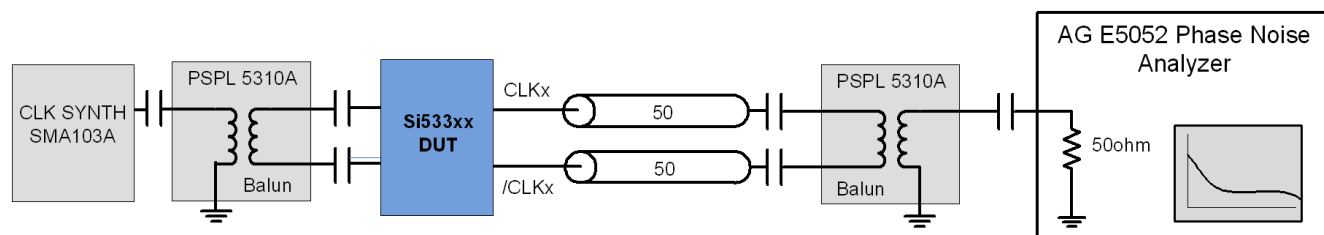

Figure 1. Differential Measurement Method Using a Balun
- Measured differentially using a balun at the phase noise analyzer input. See Figure 1.
- Measured differentially using a balun at the phase noise analyzer input (see Figure 1).
Total Jitter (Diff'l): Combined source and clock buffer phase noise measured as a differential output to the phase noise analyzer and integrated from 12 kHz to 20 MHz. The differential measurement as shown in each figure is made using a balun. See Figure 1 on page 6.